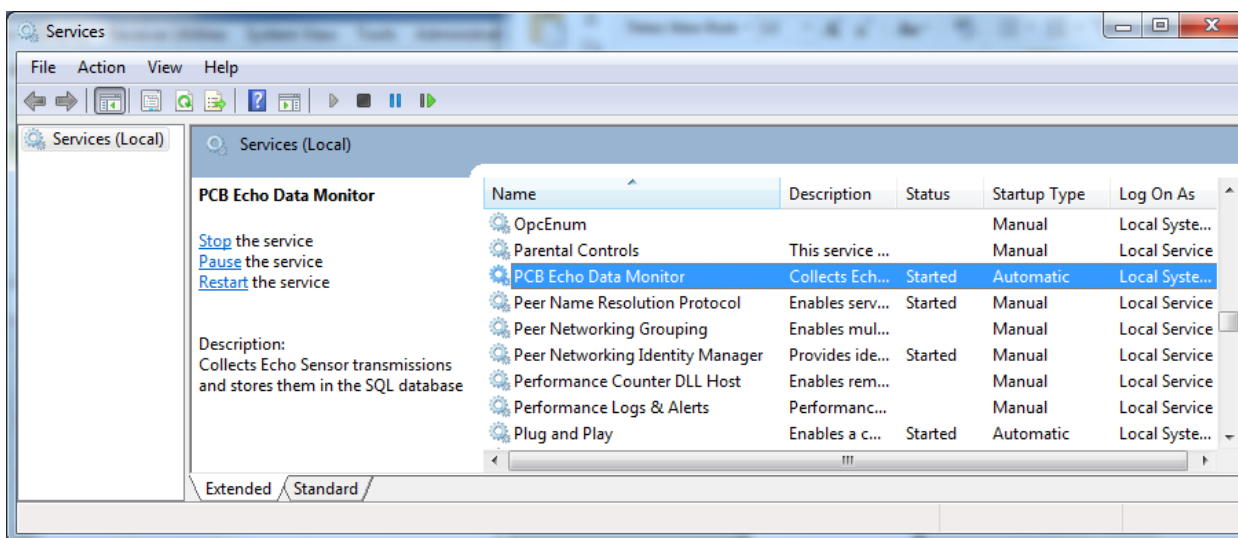

Figure 3 – PCB Echo® Data Monitor Service selected in the Services window
- Open the Services window, Start | Control Panel | Administrative Tools | Services, and look for 'PCB Echo Data Monitor,' as shown in Figure 3 below (It should be 'Started' with options to Stop, Pause or Restart. Click Start if necessary).